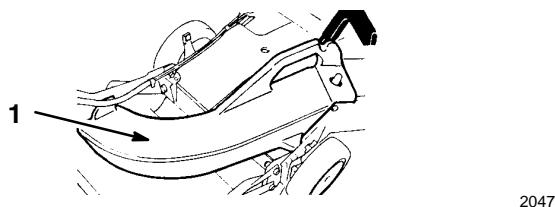

Figure 26
- 2. Side Discharge Kit**—Rear mounted in place of the grass bag. Disperses clippings while trimming on both sides (Fig. 26).